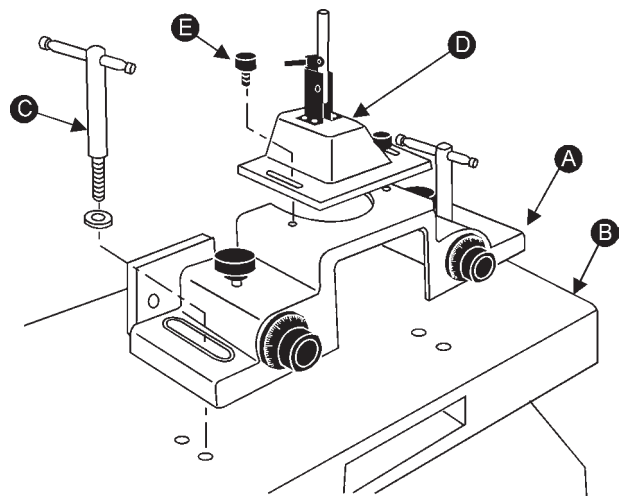

FIGURE 4
1. Mount the fence body (A) to the shaper base (B) with the two locking handles and washers (C). Place the cover (D) atop the fence and secure with two knobs (E). See Figure 4.